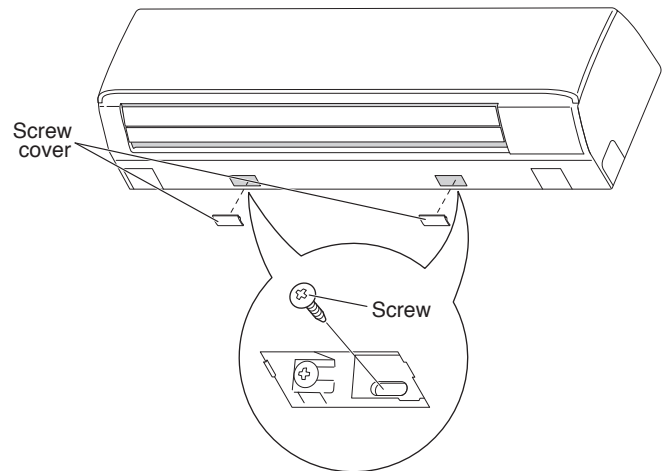

Fig. 43
- (1) Remove the screw cover on the bottom surface. (Fig. 43)
- (2) Fasten the frame to the rear panel using the 2 supplied tapping screws  $5/32" \times 13/32"$  ( $4 \times 10 \text{ mm}$ ). (Fig. 43)